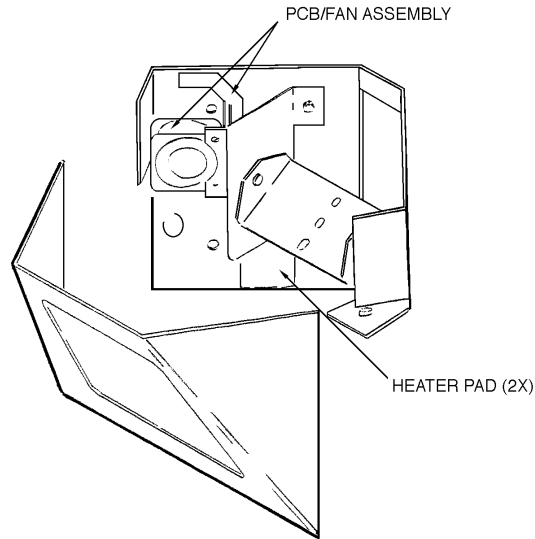

Figure 2. Heater/Blower Installation
3. Attach the PC board/fan assembly to the mounting frame, to the left or right of the tilt table assembly (see Figure 2).